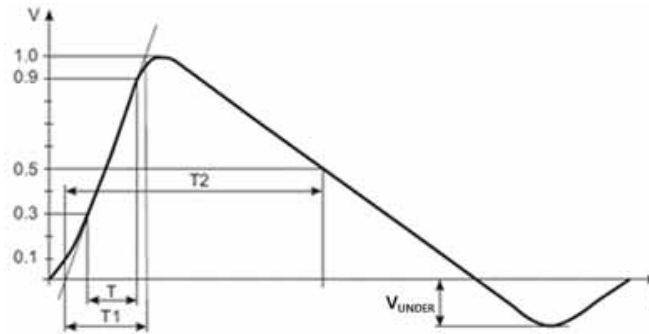

Figure 8 — Impulse Waveform for EOS Test (IEC 61000-4-5)
2. The input source needs to follow the waveform and condition as shown in Figure 8 and Table 25.